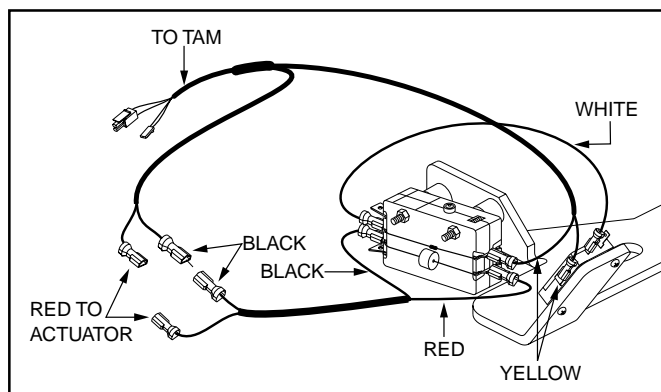

Figure 4.56. Dynamic Switch Harness Connections
5. Using a multimeter set to measure 24 VDC, insert the red meter lead into the red wire in the inhibit harness leading to the actuator. Insert the black meter lead into the black wire in the same wire harness. See figure 4.56. Operate the tilt toggle switch to the up position. Note the voltage recorded on the meter. Operate the tilt toggle switch to the down position. The voltage recorded should be plus or minus 24 VDC (corresponding to the position of the toggle switch). Reconnect the actuator. If the voltage recorded during the test indicates 24 VDC, replace the actuator.